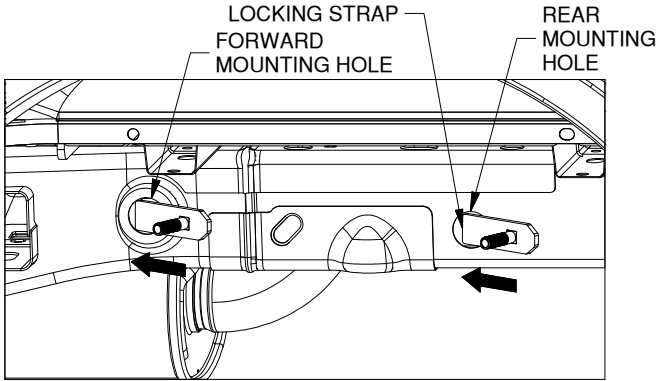
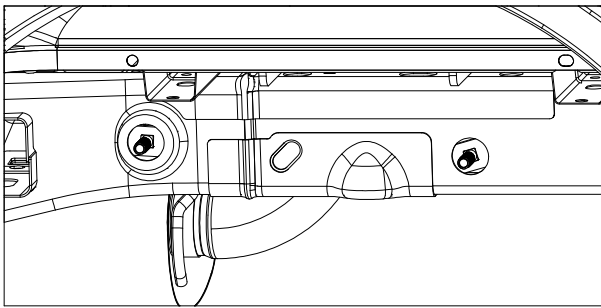

Figure C1: View of driver side wheel well.
Figure C2: View of driver side wheel well.
1. **Install carriage bolts.** Each sideplate is attached to the frame with the help of a locking strap. To begin, locate the forward and rear mounting holes in the frame shown in figure C1. Attach the carriage bolts to the locking straps by passing the bolts through the straps. Insert the locking straps through the holes in the frame until they are completely inside the frame and only the carriage bolt is passing through the holes, see figure C2.